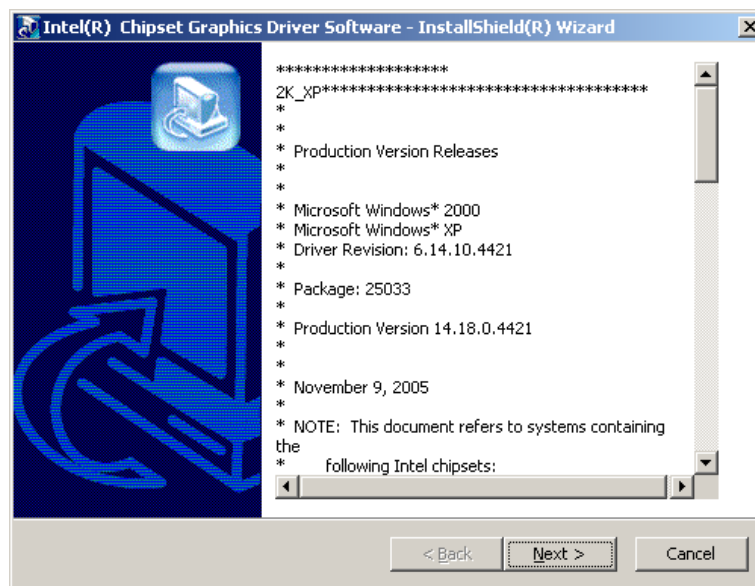

Figure 7-12: Intel® Graphics Media Accelerator InstallShield Wizard
Step 8: The **Readme** information file shown in **Figure 7-12** appears.